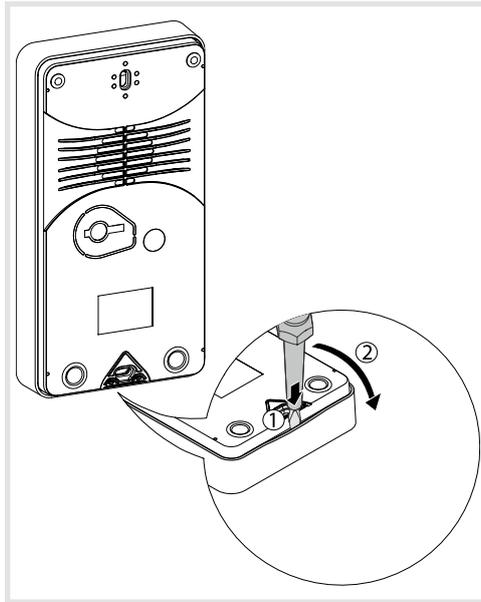

Figure 5: Opening for the first time 2
(14) Torx T10 screw
- Opening for the first time: Insert 2 mm, a flat screwdriver (4 mm) between the front face and the fixing base and then lift it to unlock it (Figure 5).